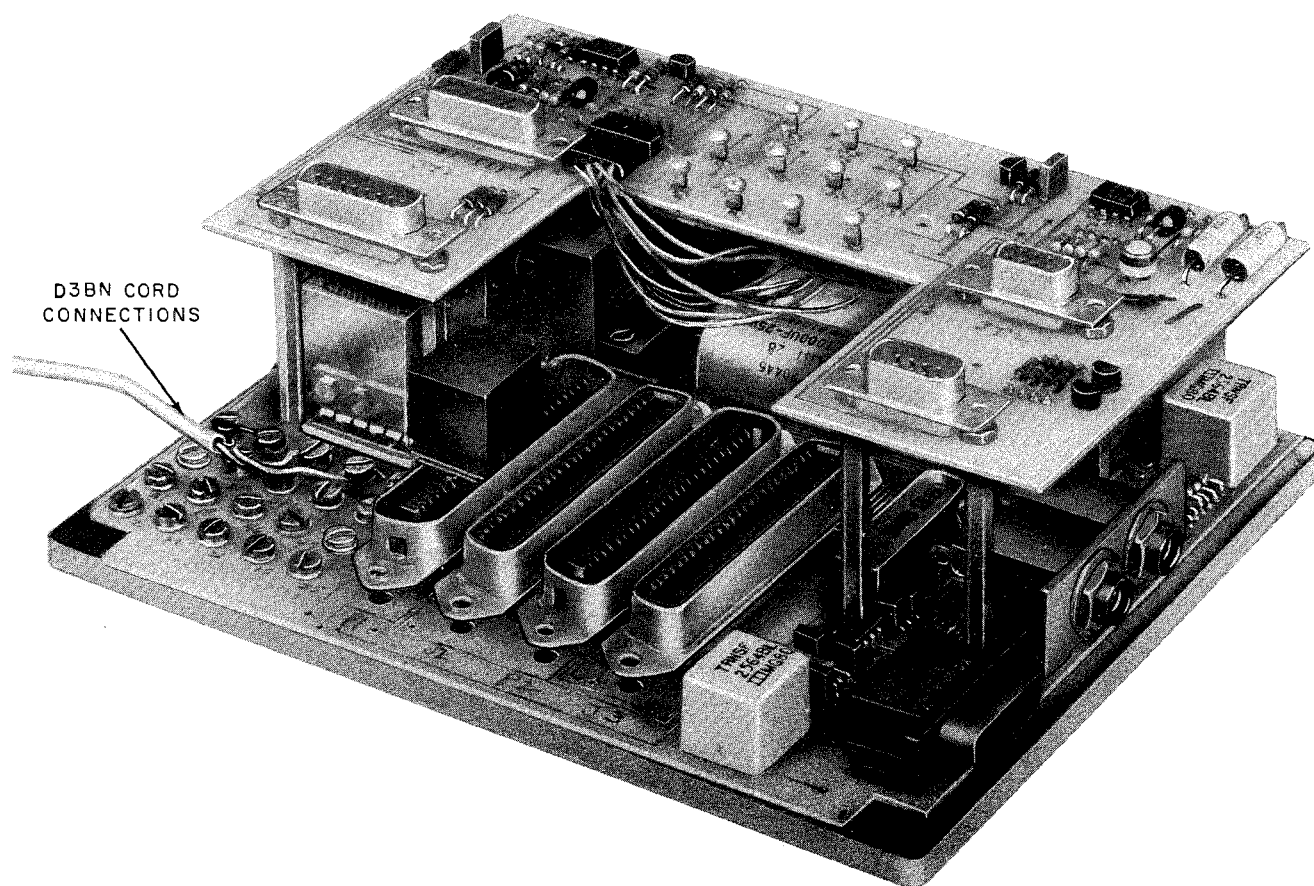
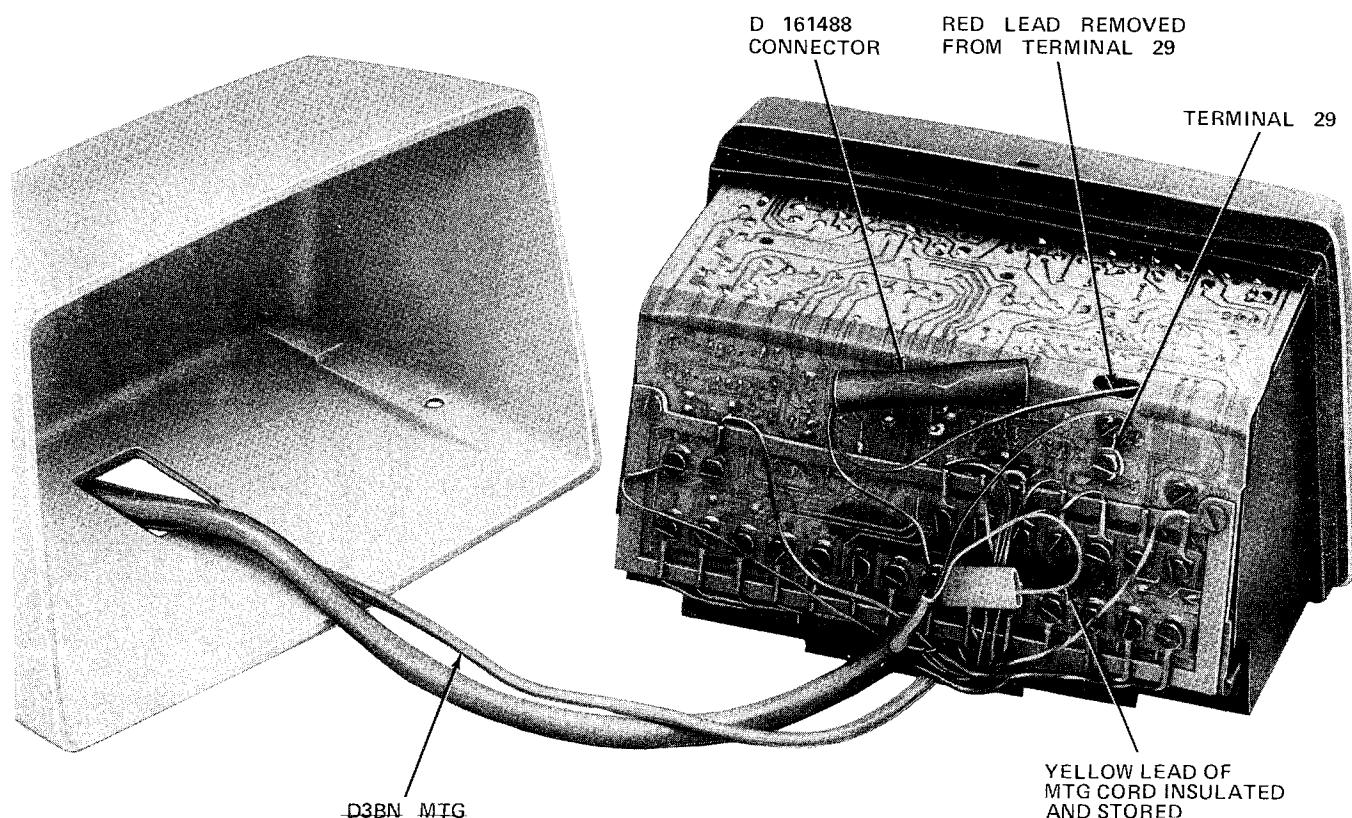

Fig. 8—122A Connecting Unit With Both Covers Removed
Fig. 9—108AA Loudspeaker With Cover Off and D3BN Mounting Cord Connected
- (4) Install a D3BN mounting cord between the loudspeaker and the 122A connecting unit.
- (5) Connect the red lead of the D3BN mounting cord to the red lead removed from terminal 29 of the loudspeaker using a D-161488 connector (Fig. 9).
- (6) Insulate and store connector.
- (7) Connect the green lead of the mounting cord to terminal 29 (Fig. 9).
- (8) Replace loudspeaker cover.
- (9) Connect the other end of the D3BN mounting cord red lead to terminal SP2 and green lead to terminal SP1 of the 122A connecting unit (Fig. 8).